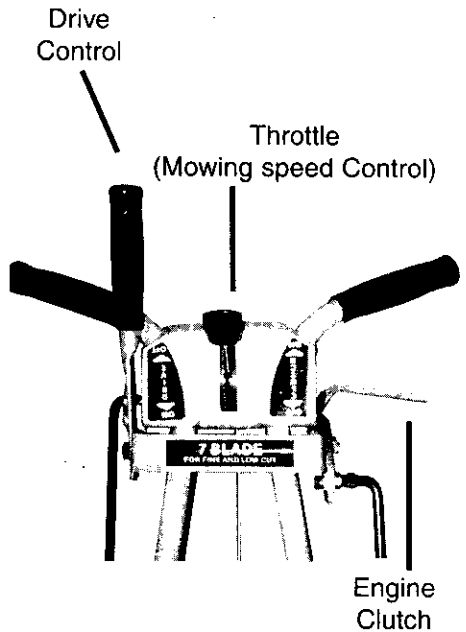

FIGURE 15
2. Lift engine clutch control and hold against handle to engage reel (Fig. 15).
5. To stop engine move throttle lever to STOP position (Fig. 15).